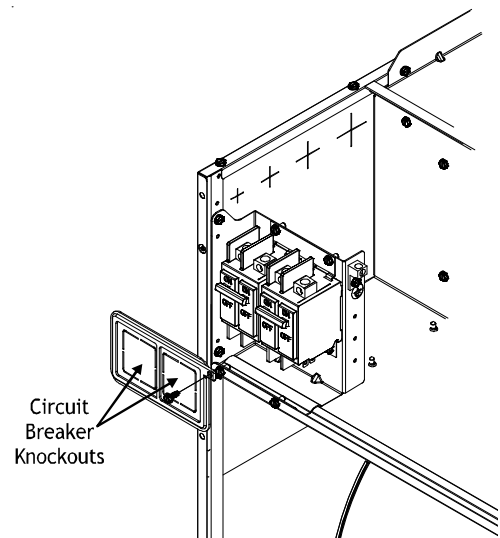

Figure 5
7. For all single phase electric heat kits with circuit breakers, break out the appropriate area of the plastic circuit breaker cover on the upper access panel of the air handler. The circuit breaker cover may be rotated if necessary. See Figure 5.